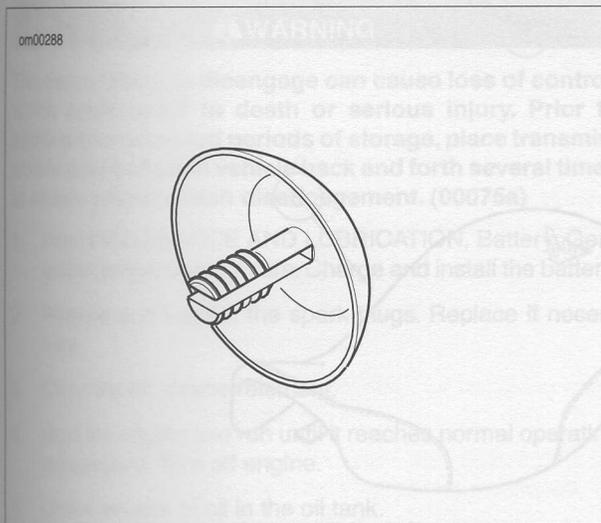

Figure 83. Seat Mounting Hole Plug
3. See Figure 83. Under the passenger seat is a chrome plug on the seat frame.
3. See Figure 83. Remove the plug and press into the seat retention nut hole using finger pressure only.